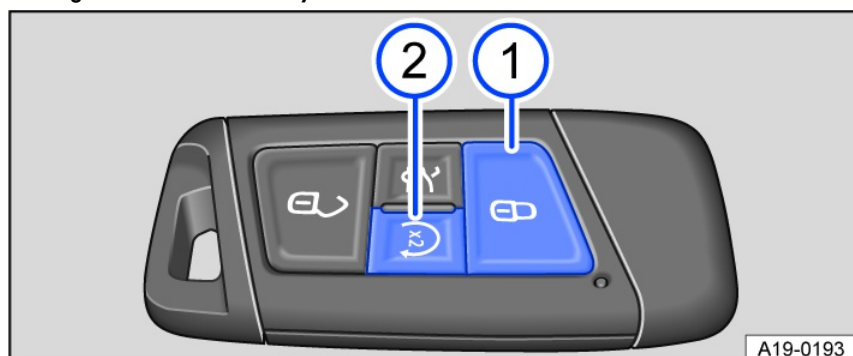

Fig. 92 Vehicle key with remote start relay function.
1. Press the button  once *fig. 92*.
2. Press the  button twice *fig. 92*.
1. Press the  button on the remote control vehicle key to switch off the engine *fig. 92*.